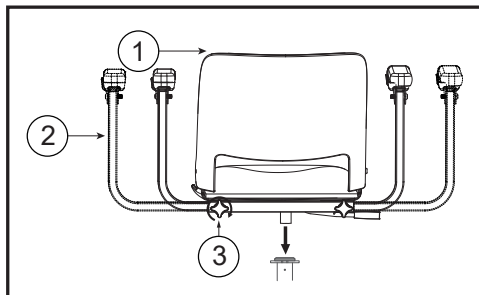

Figure 12
2. Move the armrests to the desired position and re-tighten the adjustable screws, changing the space between armrests(see figure 12).